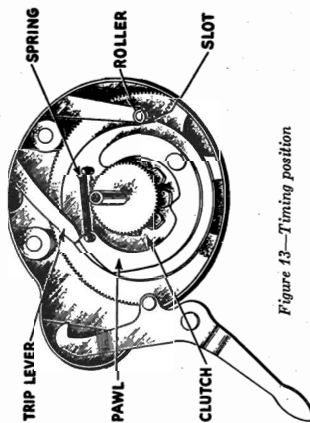

Figure 13—Timing position
- (a) Allow the mechanism to operate until the slide Figure 17 is in its extreme forwarding position. When this setting is reached the straight side of the cam, Figure 17, will be parallel with the side of the slide. Check the position of the trip lever and roller at this time to see that they are approximately as shown in Figure 13. If the various parts are not in their proper relation, the mechanism should be retimed.
- (d) Lower the pawl carrier into mesh with the gears so that the trip lever is touching the end of the pawl as shown in Figure 13, when the cable lever roller is engaged in the slot on the side of the pawl carrier as shown.
**(14) REMOVING MOTOR BOARD**